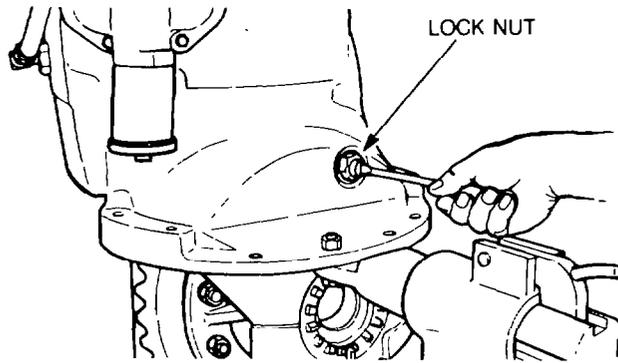

Figure 200 — Removing Thrust Screw — Intermediate Differential
- b. Position the differential carrier assembly on a suitable overhaul stand, then slacken the lock nut and remove the thrust screw from the carrier housing (see Fig. 200).